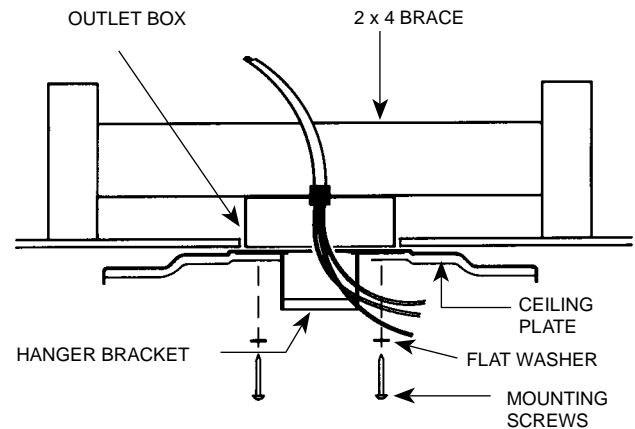

FIGURE 6
- B. Thread the lead wires through the opening in the top of the ceiling plate and through the opening in the side of the hanger bracket. See Figure 6.
Using the two center slots, attach the ceiling plate to the 2 x 4 brace supporting the outlet box. Use (2) #10 woodscrews 3" long for mounting through the outermost holes. Drill two pilot holes 9/64" diameter in the 2 x 4 brace for mounting screws. See Figure 6.